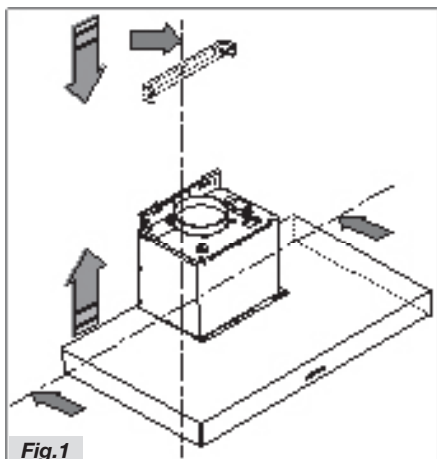
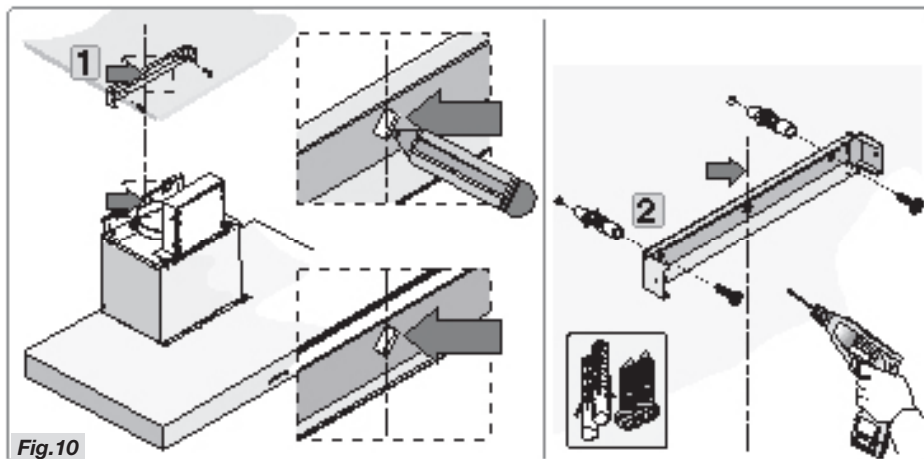

Fig.1
Fig.10
To replace a halogen bulb **B**, press the glass cover **C** as shown in figure 1.
- Position the bracket with reference to the measurements in figure 1 and fasten it in place with the screws and dowels provided (Fig.10).